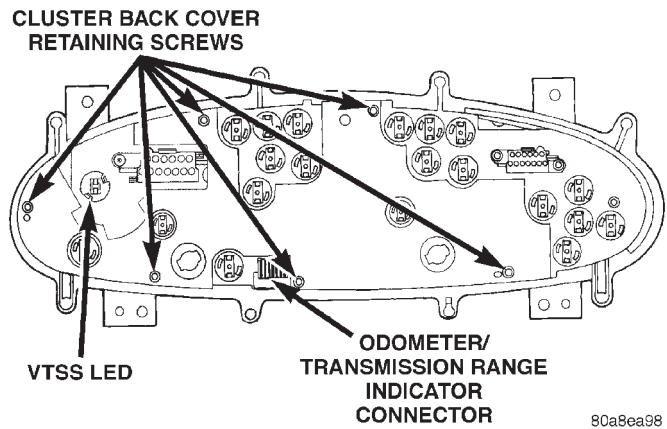

Fig. 8 Back Cover Retaining Screws
- (2) Disconnect odometer/transmission range indicator connector from the printed circuit board (Fig. 8).